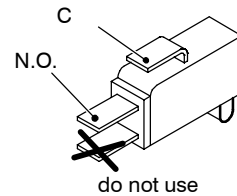

Fig. 60
- 2 Measure the electrical resistance between the tabs marked C. and N.O. (Fig. 60). The contact must be normally open.
- 4 Re-assemble the parts in reverse order of removal. Refer to Fig. 60 for the correct wiring connectors on the switch